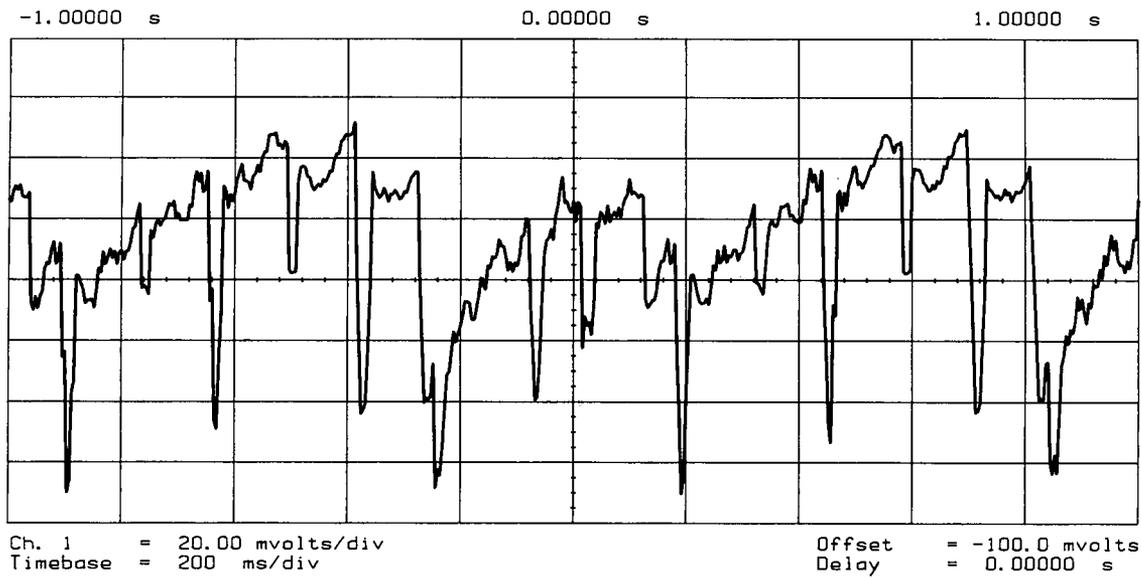
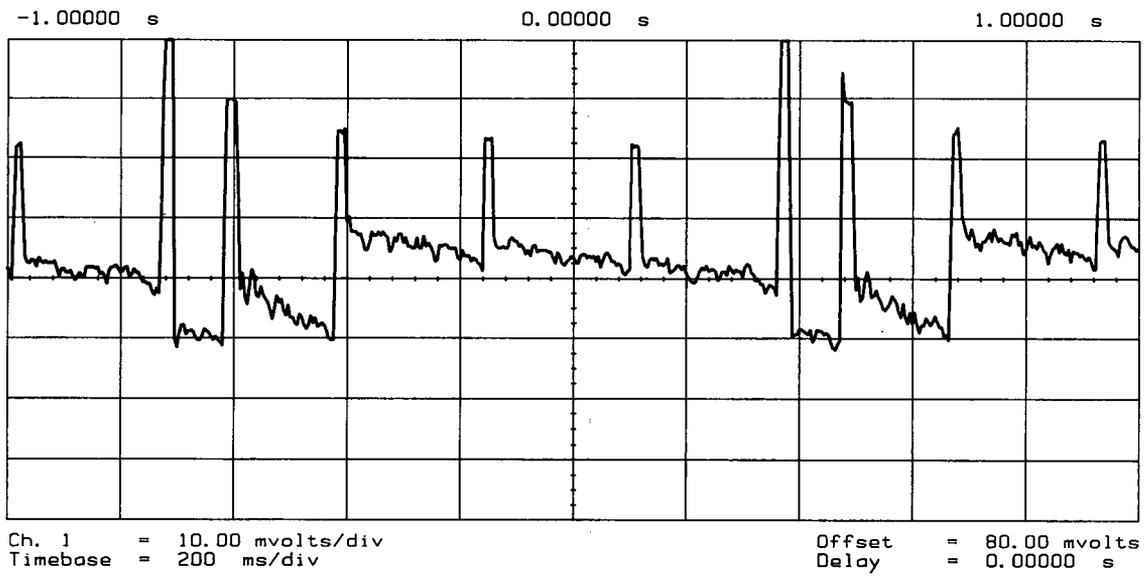

Figure H-5. Typical MODLVL Waveform
Figure H-6. Typical MOD Waveform
3. Check the MODLVL test point (A26TP3). Refer to Figure H-5 for a typical MODLVL waveform.
4. Check the MOD test point (A26TP5). See Figure H-6 for a typical MOD waveform. If either the MODLVL or MOD signal is significantly different from Figures H-5 and H-6, the most probable cause is the A26 assembly.